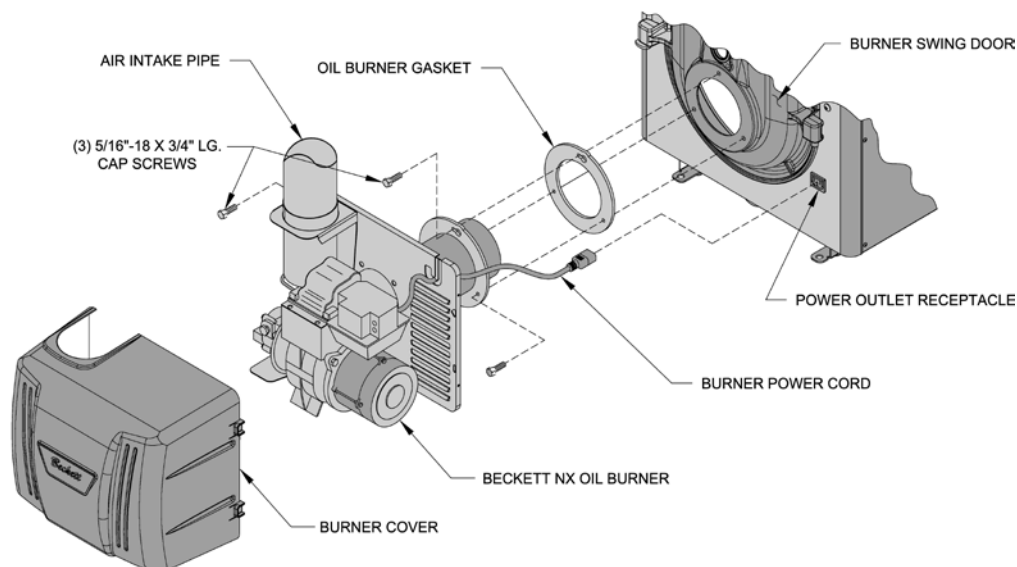

Figure 25: Oil Burner Installation (Beckett shown)
4. Remove burner cover. Loosen two screws securing outside air duct bracket to burner cover mounting plate. See Figure 25.
7. Secure the pipe to collar with at least (3) sheet metal screws (installer provided) evenly spaced around the collar.
Lift "H" (See Fig. 25)	Maximum Length of Tubing "H" + "R" (See Figure)